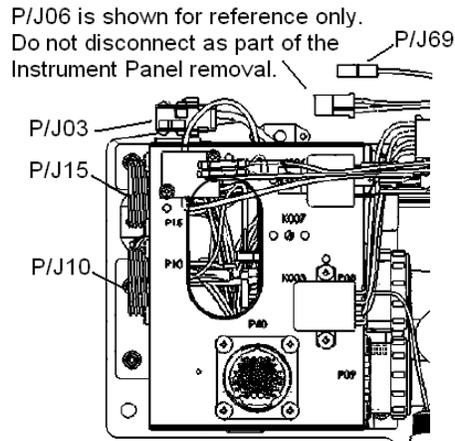

Figure 31-6 Left Hand Side of the Power Distribution Harness Assembly
6. Disconnect the pitot line (violet tubing) from the Airspeed indicator. Disconnect the static line (green tubing) at the altitude encoder system. Cap all lines and/or indicators. For the location of the pitot and static lines, and where to disconnect these lines, see Figure 31-3 and Figure 31-4. Disconnect the single wire connector at P/J69. See Figure 31-6 for the location of P/J69.
8. Disconnect P03, P10, and P15 from their mating connectors on the power distribution bracket. See Figure 31-6 for location of P/J03, P/J10, and P/J15.